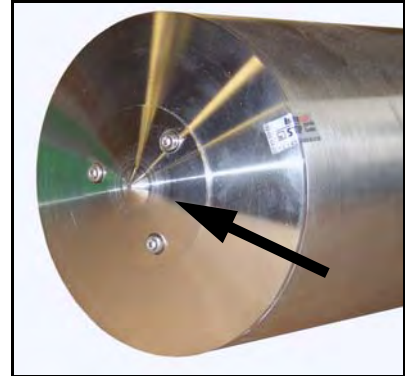

Fig. 5.2-1: Protective flange
- Check the sample inlet of the probe (e.g. for blockage) visually. Remove the protective flange (fig. 5.2-1) and check the sample inlet and clean, if necessary.